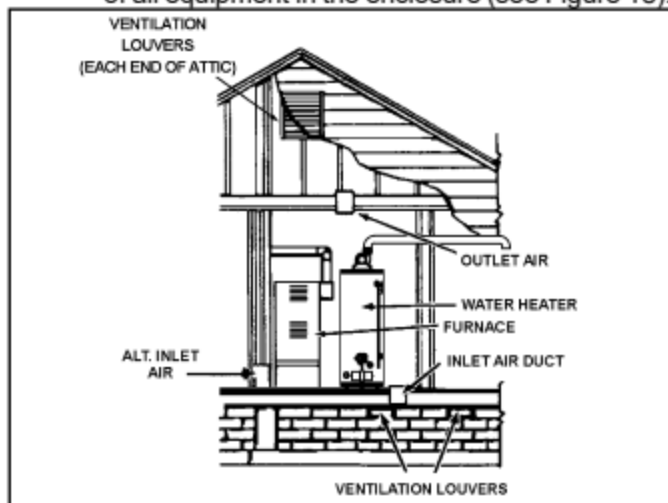
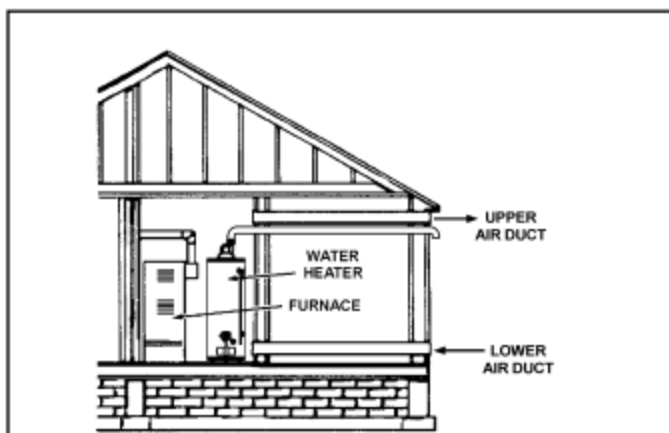

Figure 18.
Figure 20.
- B. **ALL AIR FROM OUTDOORS:** (See Figure 18 through Figure 20)
1. When directly communicating with the outdoors, each opening shall have a minimum free area of 1 square inch per 4,000 Btu/hr of total input rating of all equipment in the enclosure (see Figure 18).
3. When communicating with the outdoors through horizontal ducts, each opening shall have a minimum free area of 1 square inch per 2,000 Btu/hr of total input rating of all equipment in the enclosure (see Figure 20).
4. When ducts are used, they shall be of the same cross-sectional area as the free area of the openings to which they connect. The minimum short side dimension of rectangular air ducts shall not be less than 3 in. (see Figure 20).